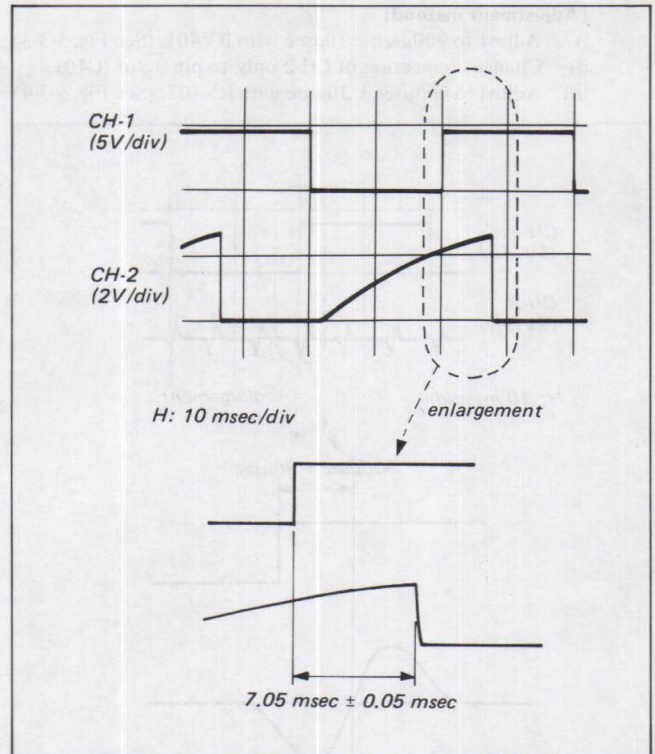

Fig. 5-3-9. Tracking FIX adjustment
- ii) Adjust to $7.05 \text{ msec} \pm 0.05 \text{ msec}$ with RV413. (See Fig. 5-3-9)